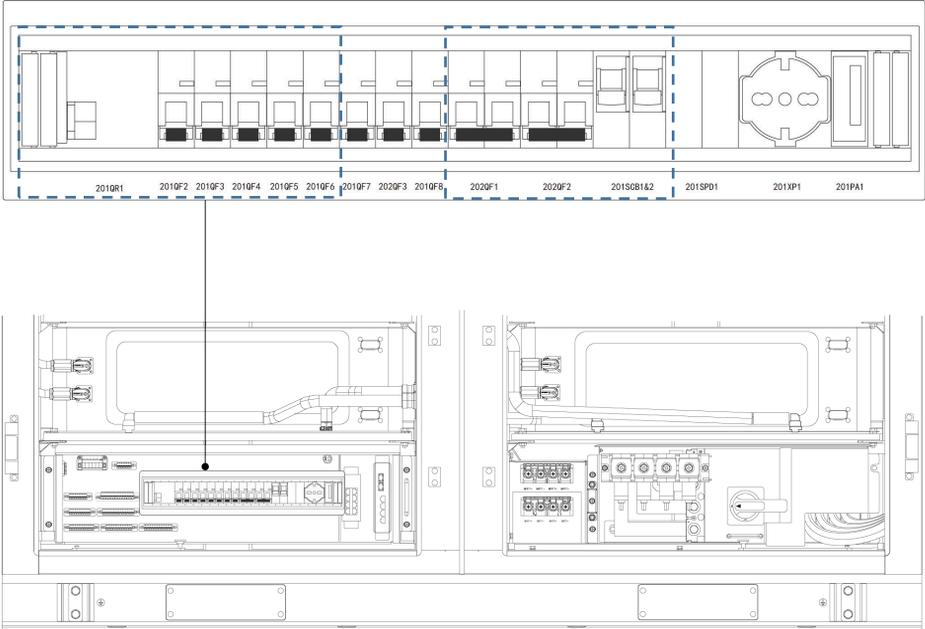
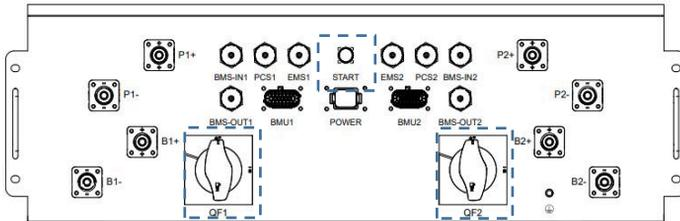

Figure.2
Figure.3
- ① Turn on the surge protection circuit breaker **201SCB1** and **201SCB2**. See the Figure.2.
- ② Attach to auxiliary power and external UPS. See the “Wire connection guide” in the section 4.2.2. Verify that both the external AC auxiliary power input and the external UPS AC input voltages are within their specified normal ranges by utilizing a multi-meter.
- ③ Turn on the AC auxiliary power supply breaker **201QR1** and AC UPS breaker **202QF1**. See the Figure.2.
- ④ Turn on the lead-acid battery breaker **202QF3** and perform a vision inspection for the ring network switch by indicators' lighting up.
- ⑤ Turn on the PV power breaker **201QF2** after ensuring the voltage level of the external photovoltaic loop is within the normal range by utilizing a multi-meter. See the Figure.2.
- ⑥ Turn on the liquid cooling system breaker **201QF3**, DC auxiliary power breaker **201QF4**, fan breaker **201QF5** and dehumidifier breaker **201QF6**. See the Figure.2.
- ⑦ Press the **START** button, turn on the BAT MCCB **QF2** and **QF1** on the DC PDU. See the Figure.3. Measure the 24V DC voltage at the input of 202QF2, and verify the high-voltage box, battery pack power supply, and communication status. If all are normal, turn the DC auxiliary power breaker **202QF2**. See the Figure.2.